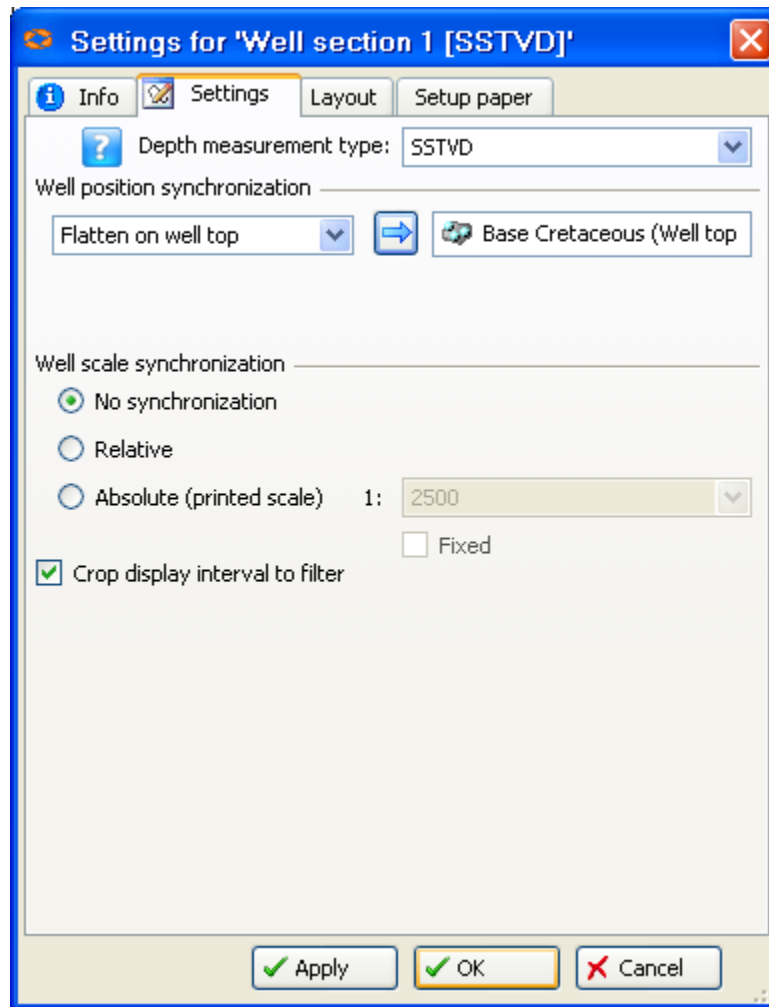

Fig. 10.14: Settings for the Well Section window
5. Click **Flatten on well top** radio button, see Fig. 10.14.